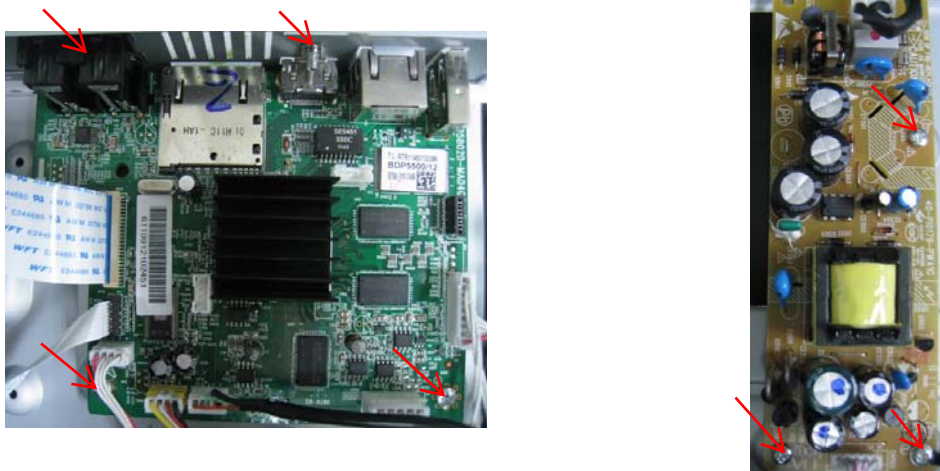

Figure 6
Step7: Dismantling Main Board , first disconnect the connector (XP4), and then remove 4 screws. (Figure 6)
Step8:Dismantling Power Board , first disconnect the connector (XP1),and then remove 3 screws. (Figure 6)